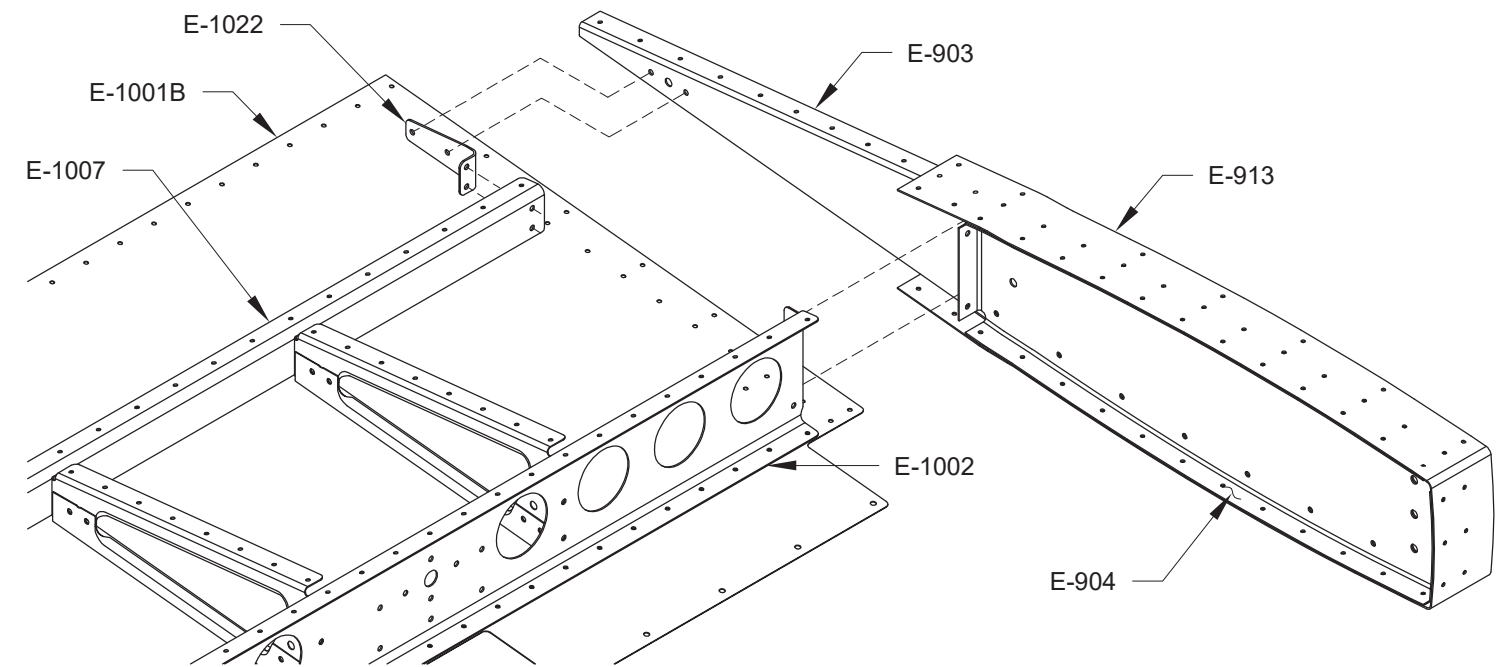

FIGURE 3: CLECOING THE TIP RIB ASSEMBLY
Step 5: Cleco an E-1022 Shear Clip to the E-1007 Rear Spar as shown in Figure 3.